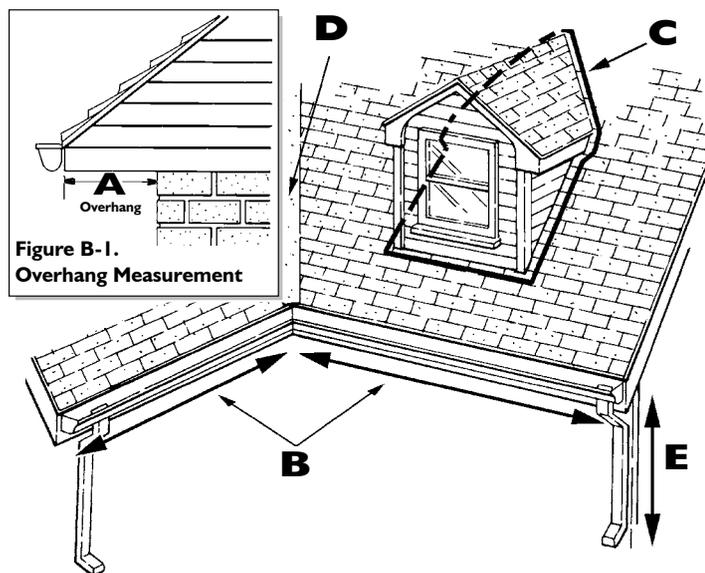
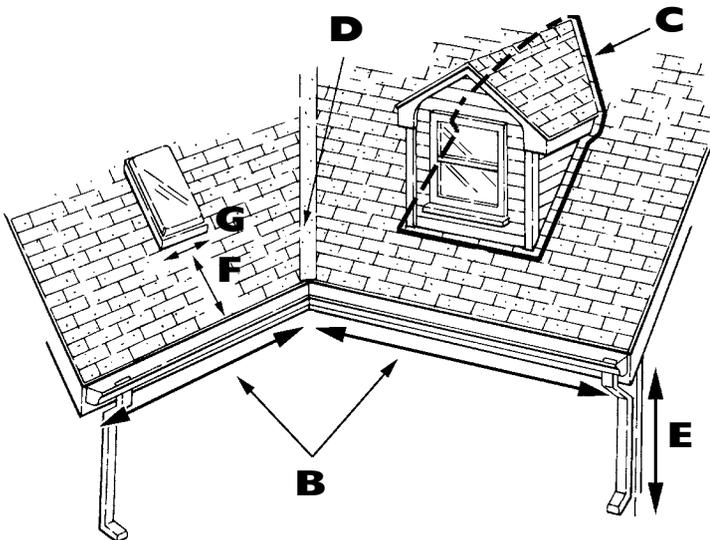

Figure B-1.
Figure B-3. Roof Measurements
- STEP 1.** For each area listed in Table B-1, measure the required dimensions (see Figures B-1 and B-2) and calculate the length of cable needed. Add each “area” calculation to determine the total cable length needed.
STEP 1. For each area listed in Table B-5, measure the required dimensions (see Figure B-1 on page 20 and Figure B-3) and calculate the length of cable needed. Add each “area” calculation to determine the total cable length needed.
This example shows how to estimate the cable length needed for a limited problem roof area – a skylight (see Figure B-3 on page 22). For this roof, you would like to treat only the problem area underneath the skylight.